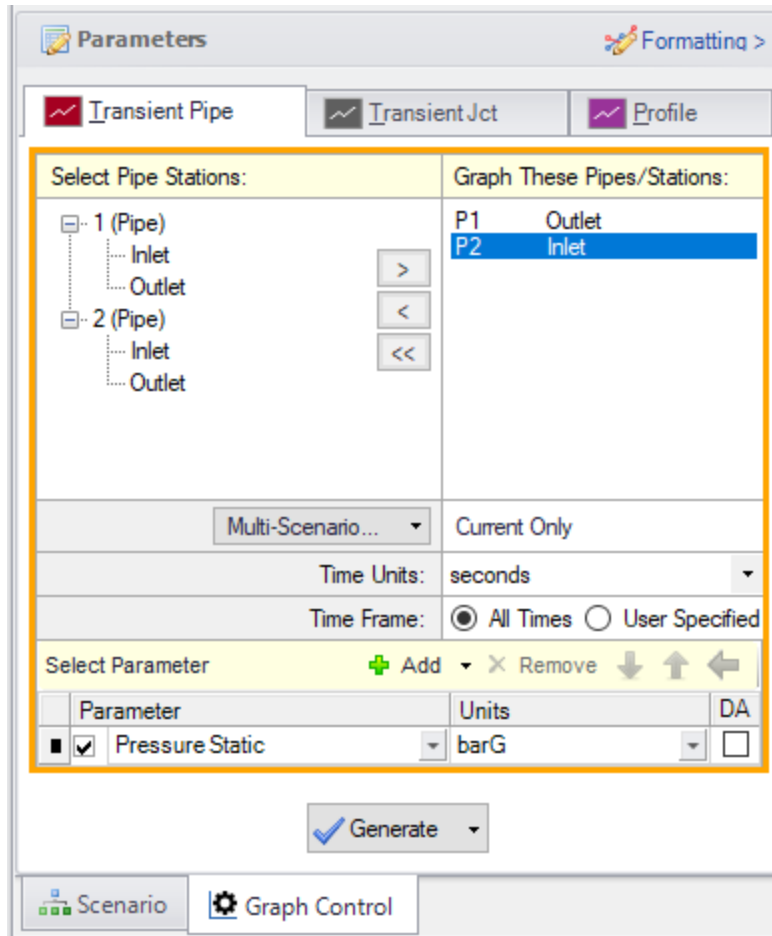

Figure 5: Data selection to view the transient pump suction and discharge pressures
1. On the Quick Access Panel, on the Transient Pipe tab, add the Pipe 1 Outlet and Pipe 2 Inlet (see Figure 5). These represent the pump suction and discharge locations.